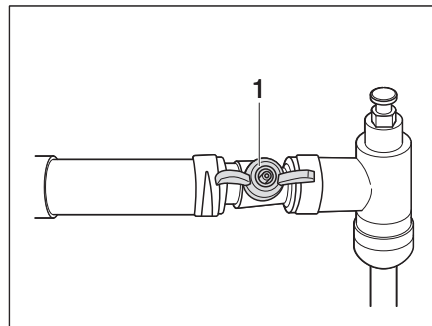

Fig. 328 Alde stopcock, opened
- Set the stopcock (Fig. 328,1) diagonally to the pipe.
- Set the stopcock (Fig. 328,1) parallel to the pipe.